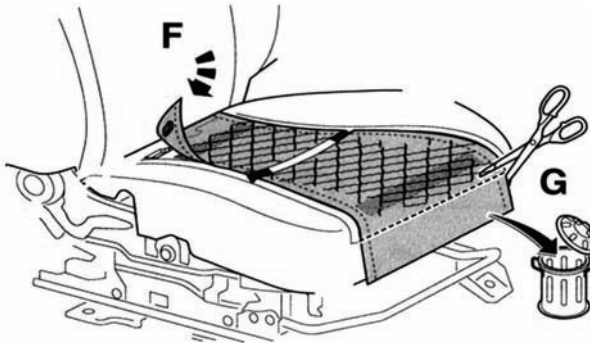

Figure 8
**NOTE:** The seat heater pad should reach the forward edge of the seat cushion. Refer to Figure 8.